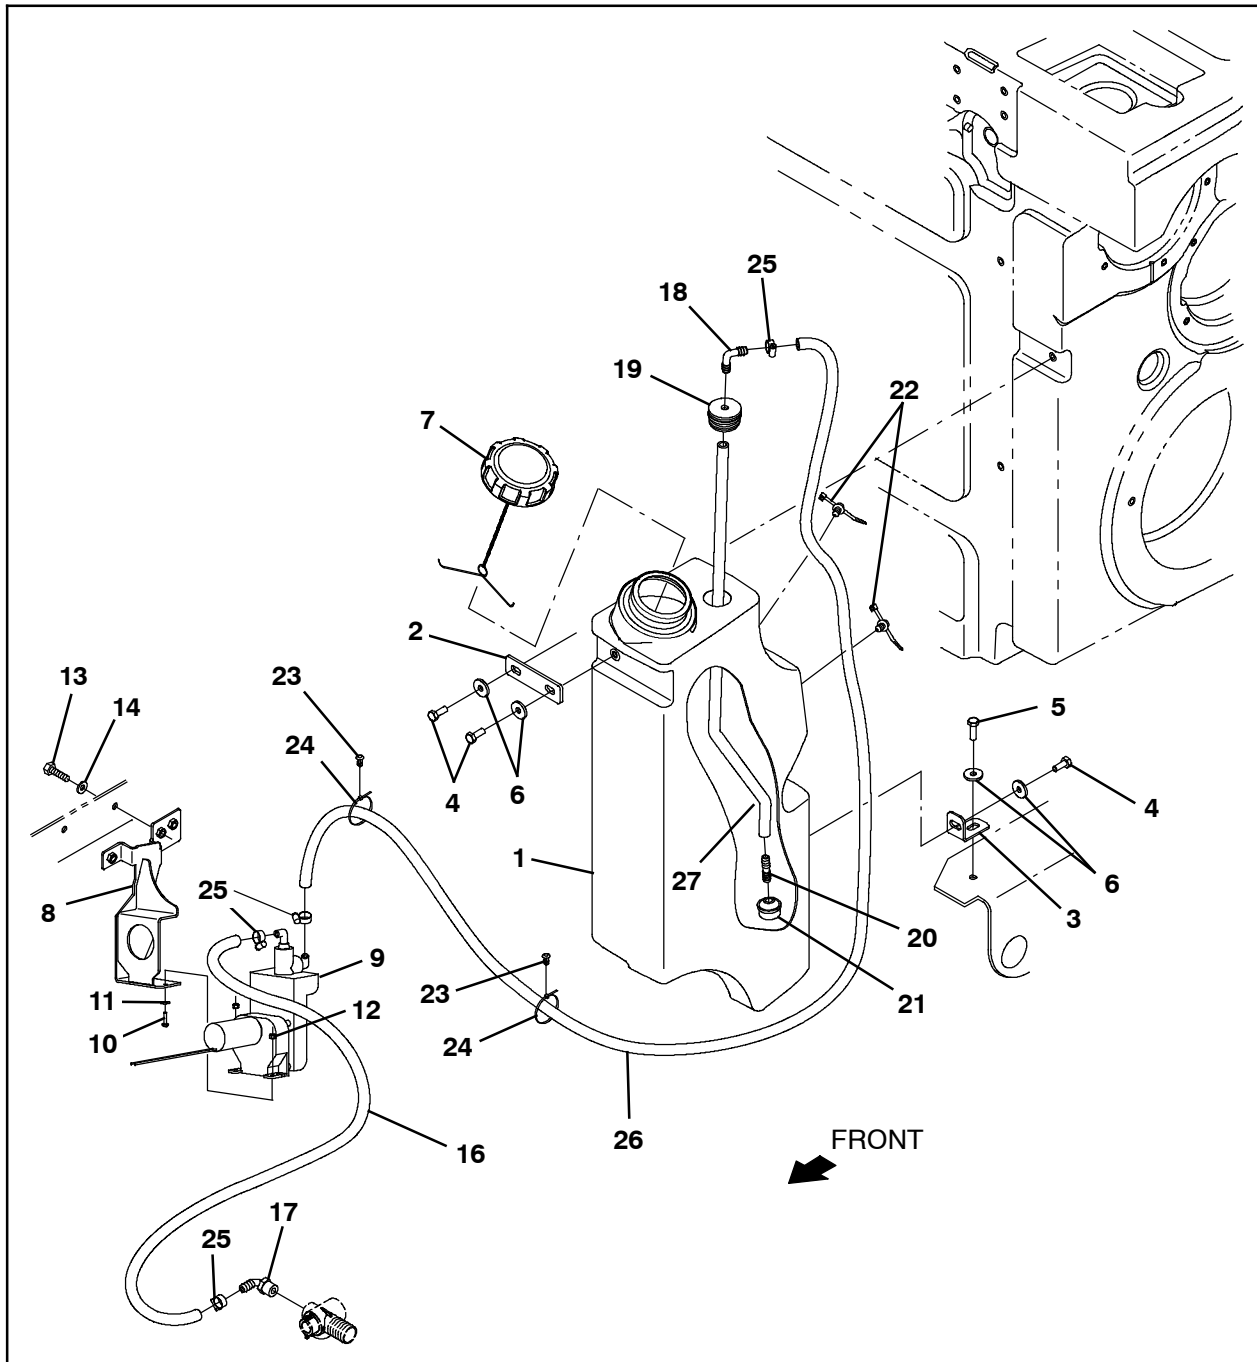

FIG. 6
20. Use tie clips (23) and cable ties (24) to secure the 119 in. (3023 mm) PVC hose (26) to the machine. (Fig. 6)